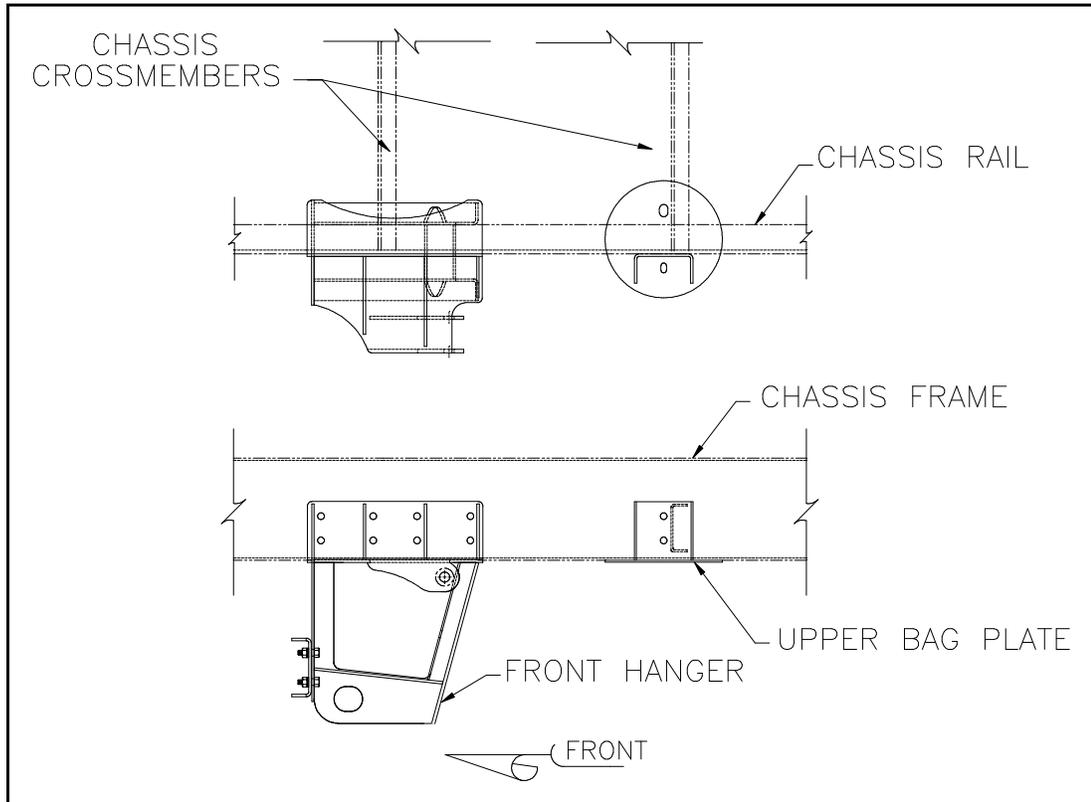

Figure 4-2
2. **IMPORTANT:** Check with customer or vehicle manufacturer to determine if chassis frame has sufficient crossmember reinforcement location in the area where the auxiliary axle rail is located. Any crossmembers required to be supplied by customer (See Figure 4-2 for suggested crossmember location.)